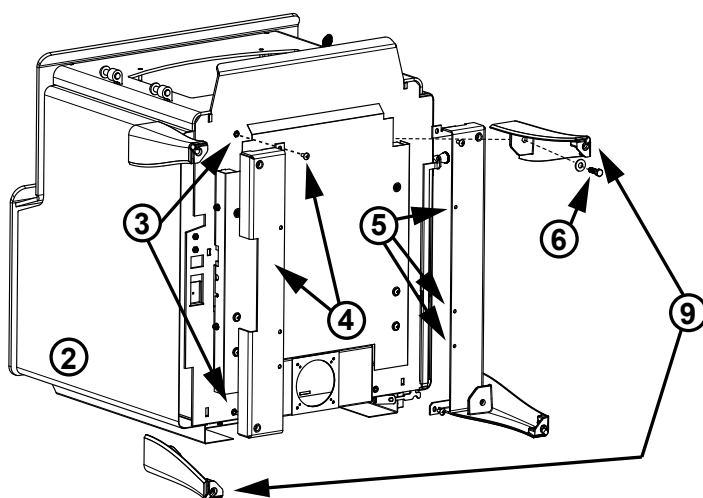

Figure 22.1
3. Remove four screws from bottom of appliance (**Figure 22.1**).
NOTE: There is a right and a left of the leg brackets (**Figure 22.1**).
5. Install six screws to the bottom of the leg brackets (**Figure 22.1**).
NOTE: Legs with leveling bolts need to be on opposite sides of the appliance - one in the front and one in the back (**Figure 22.1**).